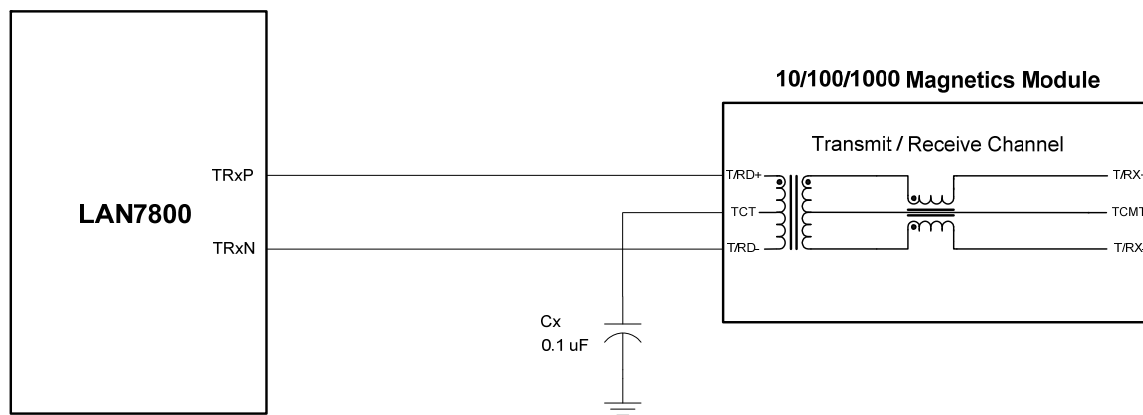

Figure 1 – Transmit / Receive Channel x Connections and Terminations
9. For Transmit/Receive Channel connections and termination details, refer to Figure 1.